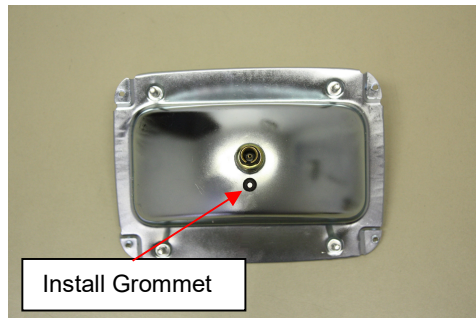

Figure 1
2. OPTIONAL: If sequential patterns are desired, drill a 3/16" diameter hole on the bottom surface of the taillight housing and deburr hole. (See Figure 1) Then install provided rubber grommet into the drilled hole. One method to simplify installation is to pinch grommet, insert protruding edge into the hole, then use a small flat blade screwdriver to push/work the remaining edge through the hole.